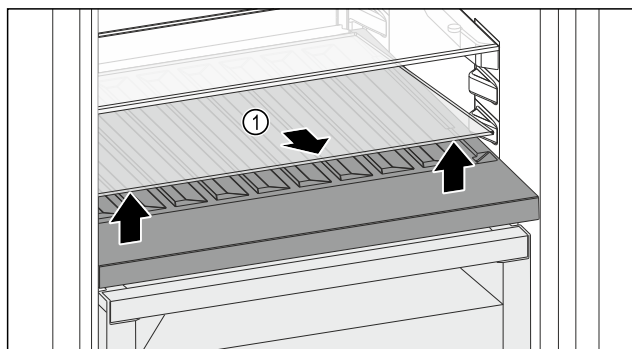

Fig. 118
- Lift the glass shelf Fig. 118 (1) at the front and remove.
- Store the glass shelf Fig. 118 (1) in a safe place outside the appliance.